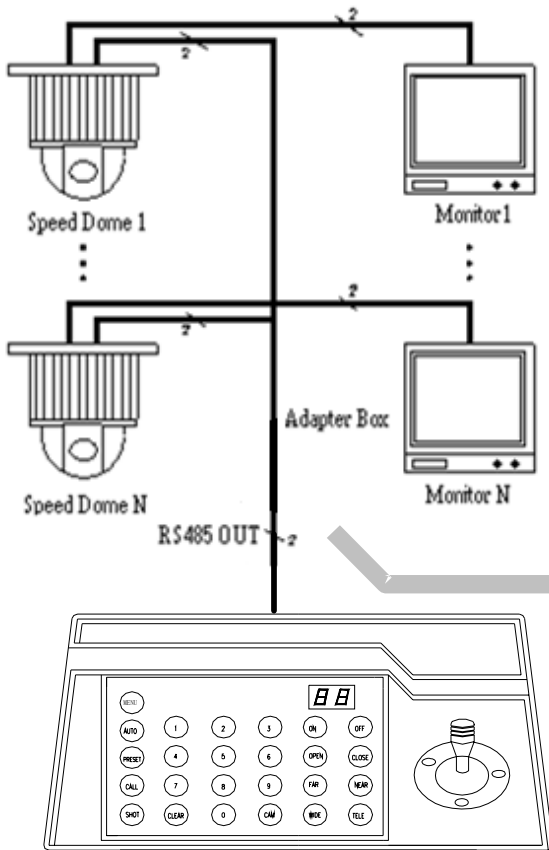

Figure4
1. Connections of the keyboard controller controlling multiple speed dome cameras(Figure4)